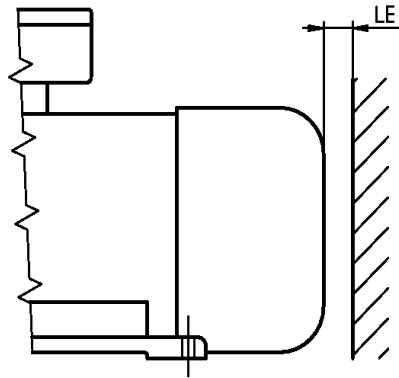

Figure 2: Minimum distance of obstacles from the air opening
Table 2: Minimum distance (LE) of an obstacle from the air opening, see Fig. 2.